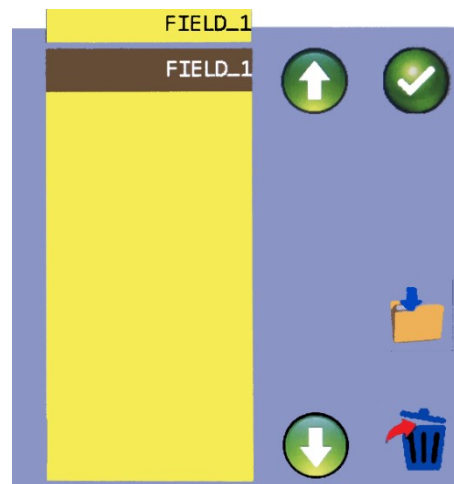

Figure 42
- In the sub window that opens, we select in to which work file on USB we want to transfer current work from AG-TRONIK (Figure 42).